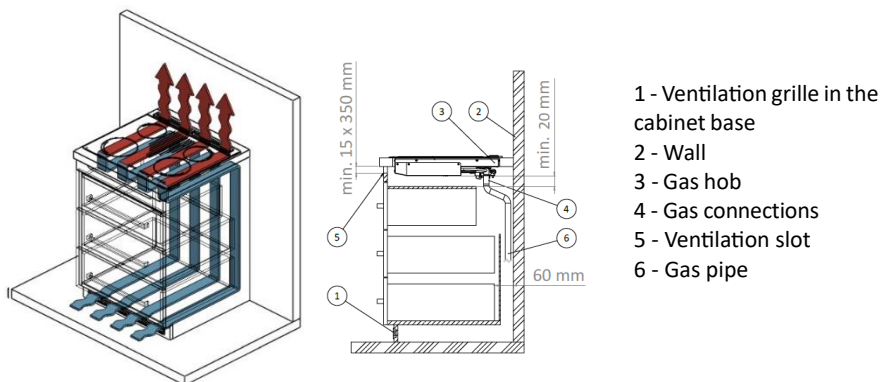

Fig. 4 How to install the cooker without an oven
- if the rear wall of the cabinet is built-in, ventilation holes must be cut out in it, as shown in Fig. 4,